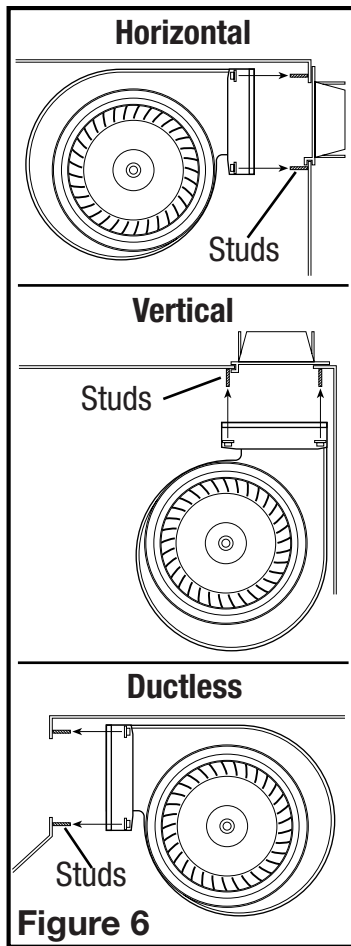

Figure 6
1. With the opening of the blower facing the direction you have chosen to duct the hood, place the blower mounting brackets (brackets on either side of the blower) over the blower mounting studs on the interior of the hood (**Figure 6**).
2. Using the 4 nuts removed earlier, secure the blower in place. Start the nuts by hand first, then tighten with a 3/8" nut driver or ratchet until they are fully seated (**Figure 6**).